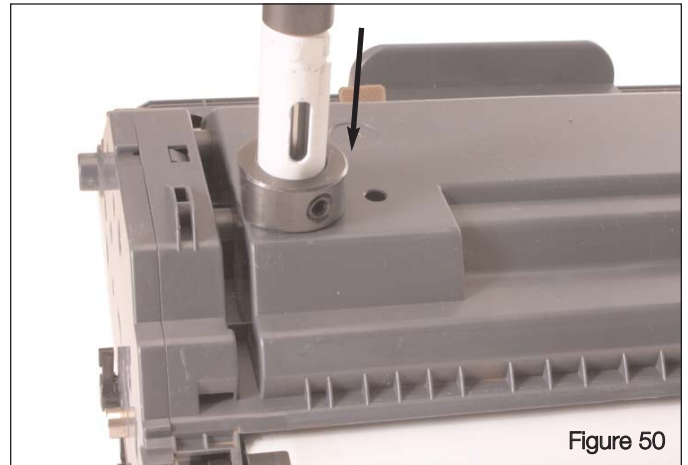

Figure 50
2. Attach the Waste Bin Entry Tool (HP2550WBETOOL) to a 3/8" drill. Always wear eye protection while operating power tools. Using the Waste Bin Entry Tool, drill through the Waste Bin at the location as shown in Figure 50. Make sure that the collar does not overlap the edges. This will ensure plenty of surface area for the patch to adhere to. The collar will stop the bit from traveling too far into the Waste Bin.
**Note:** Only drill at the location shown in Figure 50. Drilling at any other location may damage parts inside the Waste Bin. Do not damage the Transfer Belt.